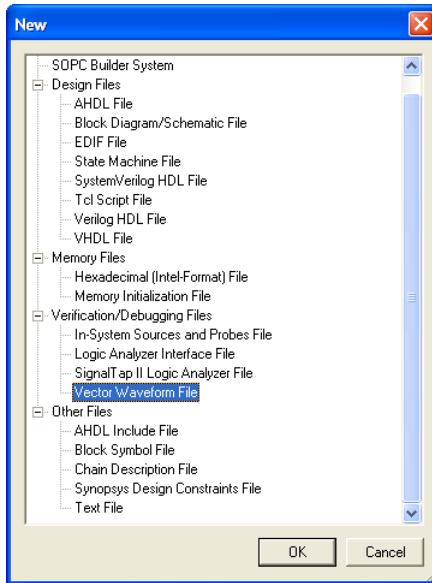

Figure 28. Need to prepare a new file.
1. Open the Waveform Editor window by selecting **File > New**, which gives the window shown in Figure 28. Choose **Vector Waveform File** and click **OK**.